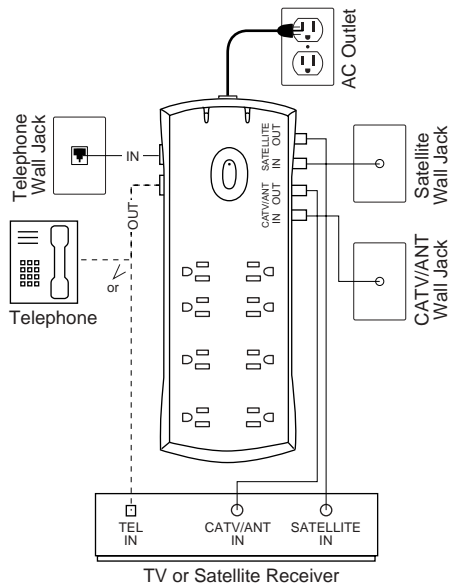

Figure 1: Installation
1. Connect an RJ11 telephone cable from the telephone wall jack to the Surge Protector TEL/MODEM/FAX IN jack. (see Figure 1)
1. Connect a COAX cable from the CATV/ANT wall jack to the Surge Protector CATV/ANT IN jack. (see Figure 1)
1. Connect a COAX cable from the Satellite wall jack to the Surge Protector SATELLITE IN jack. (see Figure 1)